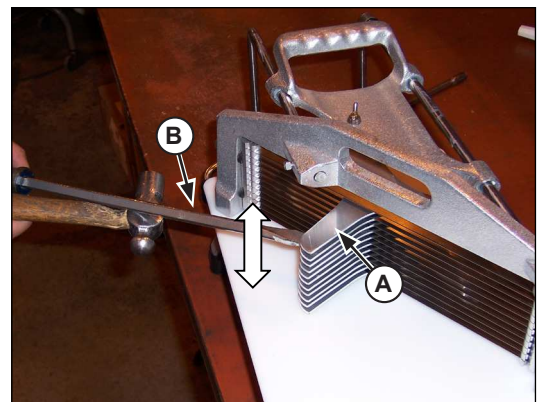

Figure 2. Pusher Head Adjustment Between the Blades.
1. Carefully insert a screwdriver (B) between the slots in the Pusher Head Assembly (A). Gently tap on the screwdriver (B) (up or down) to alter the location of the Pusher Head Fingers so the slide effortlessly through the blades. See Figure 2.